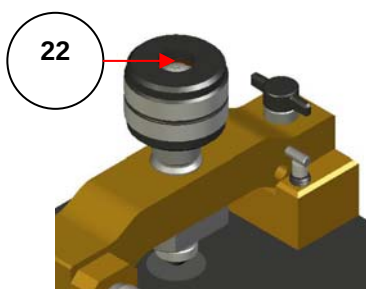

Figure 27: Torque limiter screw showing torx screw fixing
After this load has been achieved the screw rotates without increasing the load. This means that there is no need to use a torque wrench for routine sampling. However, a torque wrench with torx head adaptor (10504 and 10505 respectively) can be supplied separately to provide loads up to 160lbs, using the central torx head screw fixing (22). (See Fig 27).